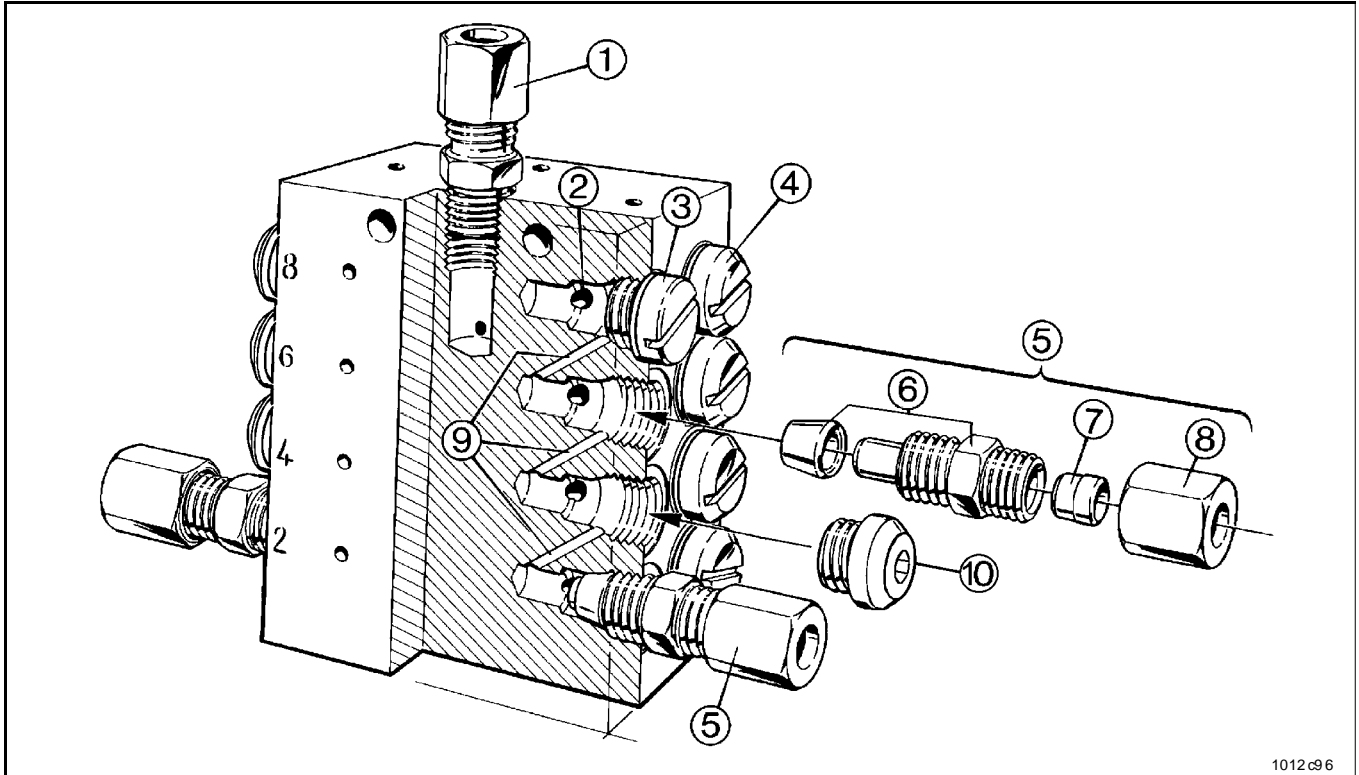

Fig. 26 Install the outlet fittings and closure plugs in accordance with the dosage
- Install an outlet fitting assembly 5 (M 10x1) in each outlet borehole which will be used. Refer to Fig. 26, 27, 28.
*In the case of construction machines or agricultural machines use high-pressure hoses for the lubricant feed lines. In this case, secondary metering devices (see fig. 26) must also be equipped with check valves with reinforced collet (standard flange, see fig. 3).*